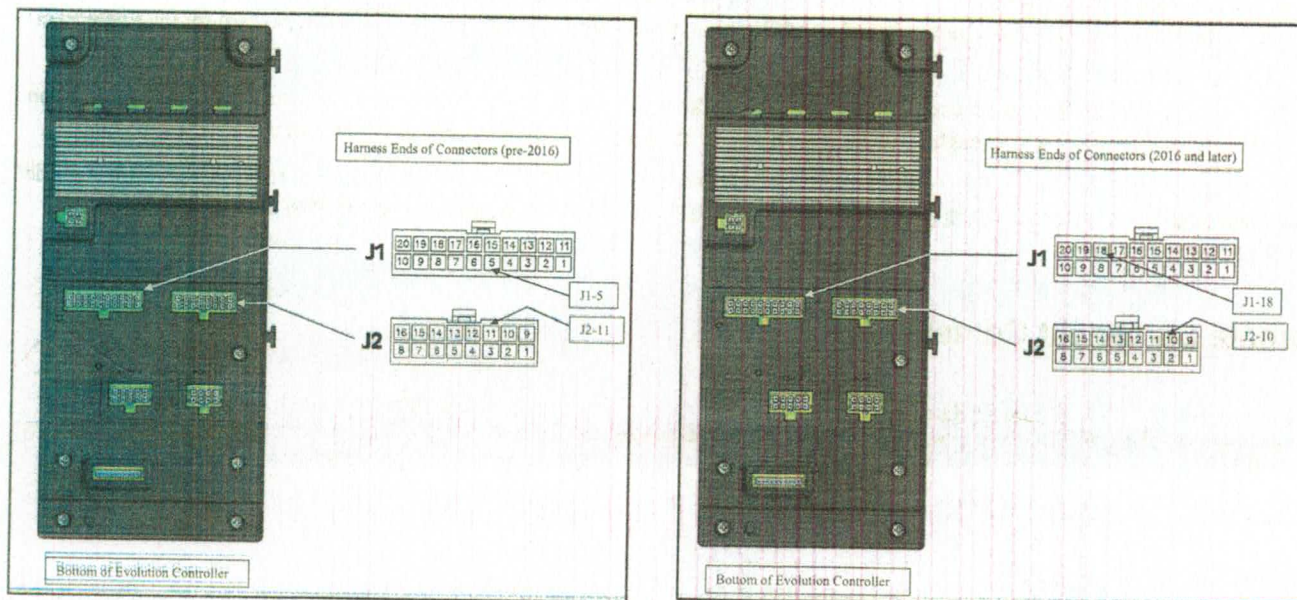

Figure 1. Bottom (underside) of Evolution Controller
2. Install the 18-pin connector back into the J2 connector on the back of the control panel. See Figure 1.
1. Bottom (underside) of Evolution Controller for Steps 1-3. Unplug the 20-pin connector (J1) and the 16-pin connector (J2) from the control panel underside by carefully releasing the latch on the side of each connector, Figure 1.
4. Install the J1 and J2 harness connectors back into the J1 and J2 connectors on the back of the control panel. See Figure 1.